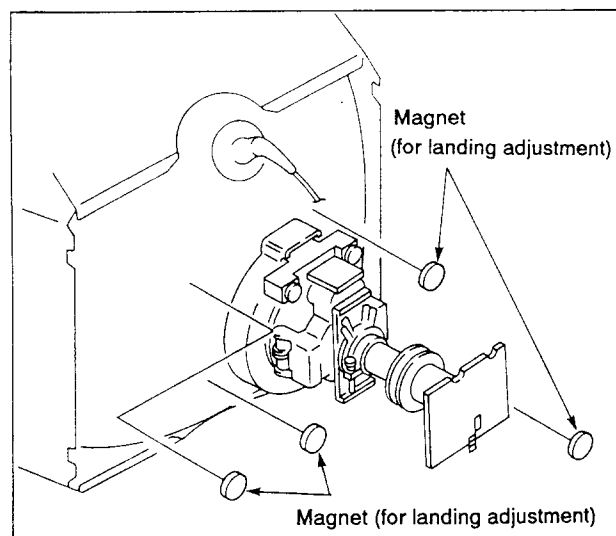

Fig. 6-3-8
- 6) After again the CRT for at least 30 minutes, install a wobbling coil on the neck of the CRT, then adjust the deflection yoke position with the landing checker and adjust the purity, the four corner landing, and the deflection yoke tilt. The four corner landing error must be no greater than $5\mu m$ for green and no greater than $14\mu m$ for blue and red. As necessary, attach CRT magnets as shown in Fig. 6-3-8 (no more than one magnet at each corner).